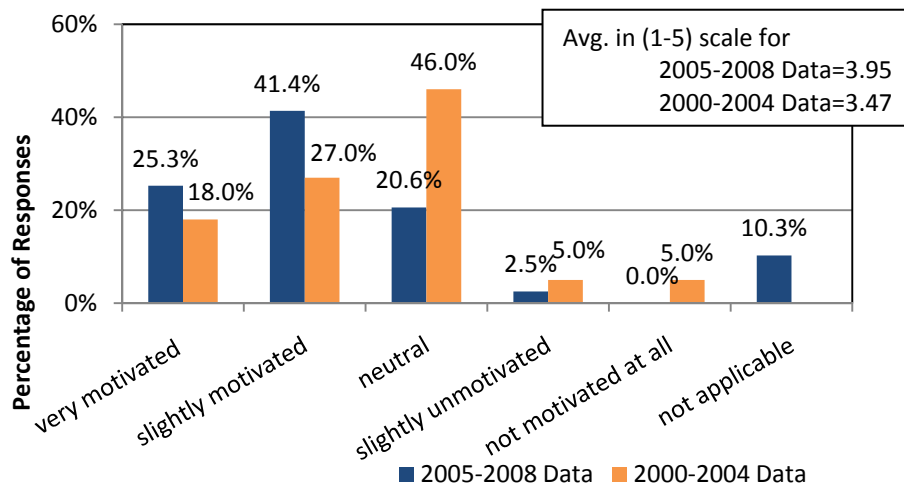

Figure 2.12 2000-2009 Cumulative Industry Survey Results: *Do you feel that UNLV graduates are motivated to gain professional registration?*
These responses were evaluated in the same scale as others using (1)-(5) scale with 5 for *much more prepared* (Figure 2.11) or *very motivated* (Figure 2.12), and 1 for *much less prepared* (Figure 2.11) or *not motivated at all* (Figure 2.12).
Other related questions: - Do you feel that UNLV graduates are motivated to gain professional registration? (See Figure 2.12)	3.95